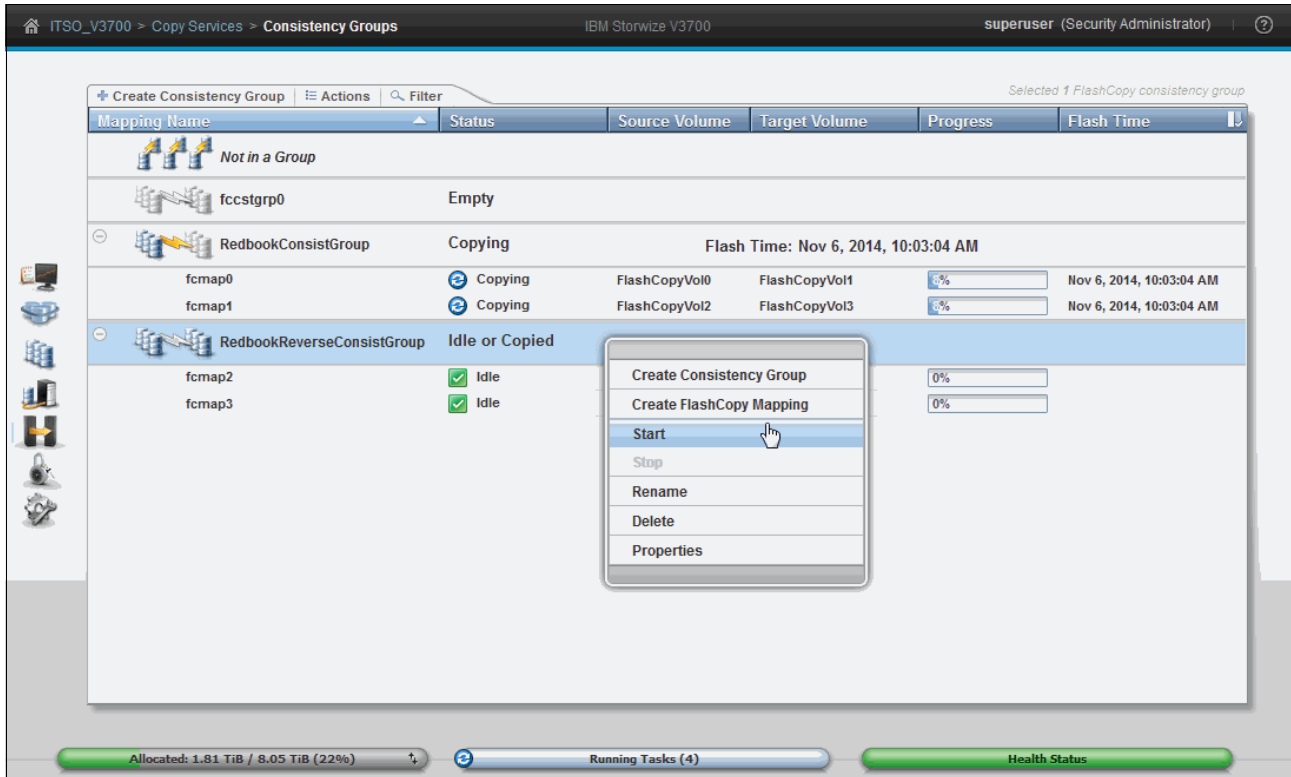

Figure 10-68 Starting Consistency group restore
- To restore the consistency group, highlight the reverse consistency group and click **Start**, as shown in Figure 10-68.